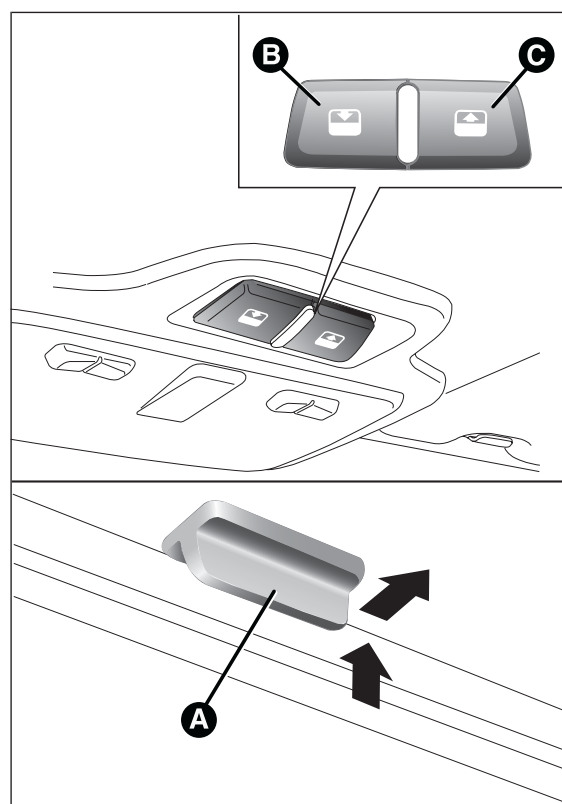

fig. 42
The large electric sun roof comprises two glass panels; the front one is mobile and the rear one fixed. These are equipped with two sun blinds (front and rear) that can be moved manually. With the sun roof closed, the blinds can be placed in any position. To open the blinds, grip handle A fig. 42, following the direction indicated by the arrow until the desired position is reached. To close them, carry out the procedure in reverse.
The sun roof can be operated only with the ignition key turned to MAR. The controls B and C fig. 42 on the front roof light trim operate the roof opening/closing functions.
After opening in spoiler position, press button C fig. 42 for more than half a second to bring the roof automatically to fully open position. The automatic roof movement can be stopped in any position by pressing a button (B or C) again.
Press button B from the fully open position fig. 42. If the button is pressed for more than half a second, the roof will automatically move to spoiler position.
From the spoiler position, press button B fig. 42 again to reach the fully closed position.
- ☐ press button B fig. 42 in closing position;